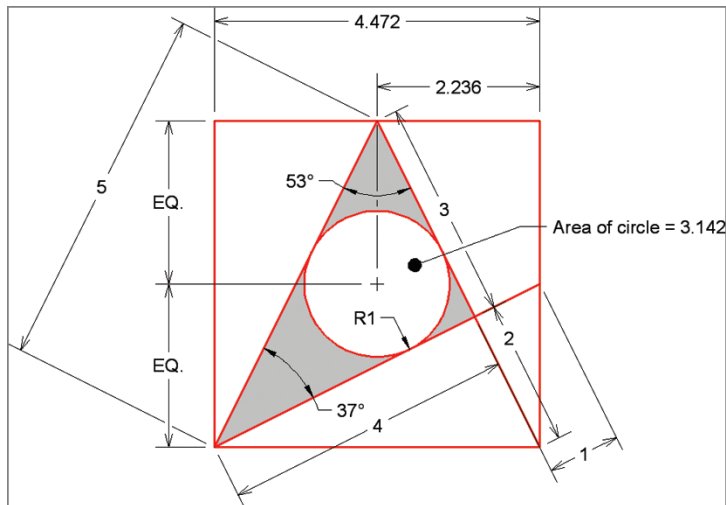

FIGURE 11.26 Using DIMBREAK to clean up overlapping dimension objects
13. Press Enter to accept the default Auto option, and the DIMBREAK command ends. Breaks are made in the selected dimensions where they cross other objects (see Figure 11.26).